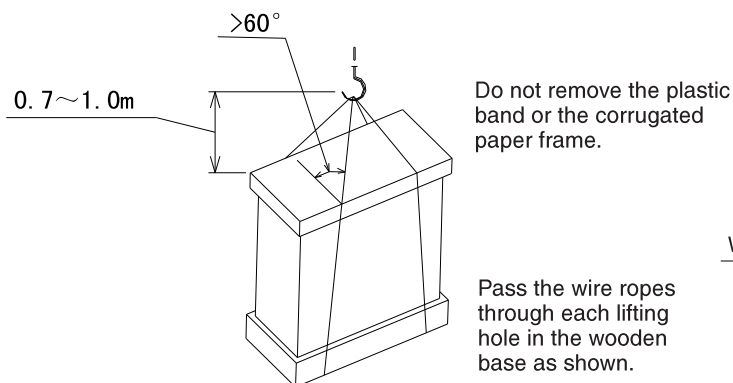

Fig. 3.1 Lifting Work for Transportation
- (1) Do not remove any packing materials.
- (2) Lift the unit under packing condition with two (2) ropes, as shown in Fig. 3.1.